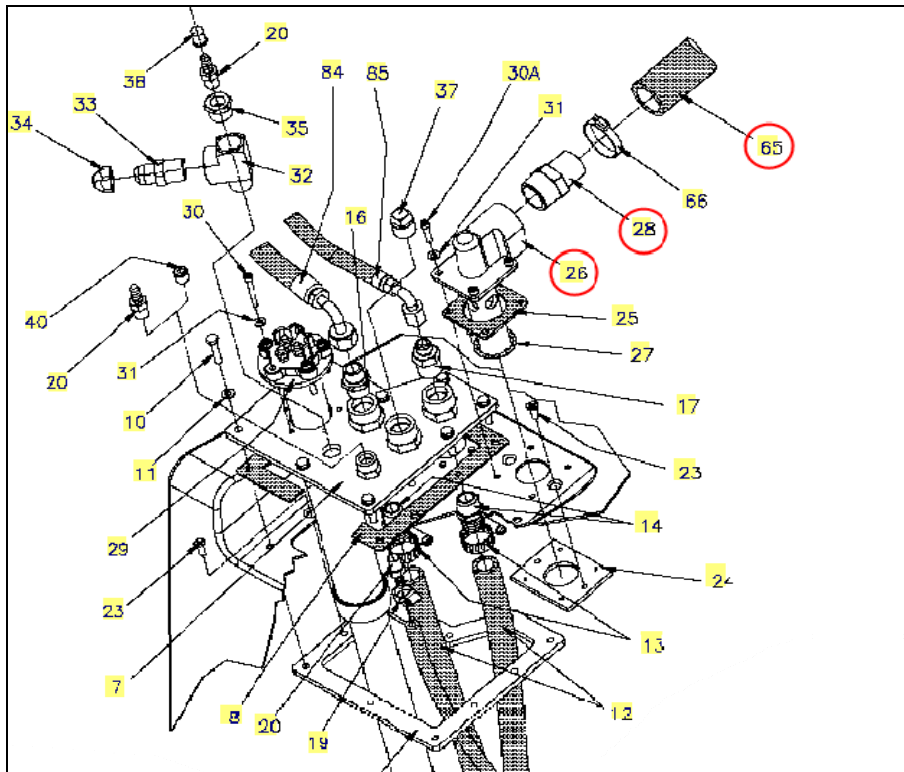

FIGURE 7
4. Remove old hose (figure 7, #65) and whistle fitting (figure 7, #28) from level control valve (figure 7, #26).